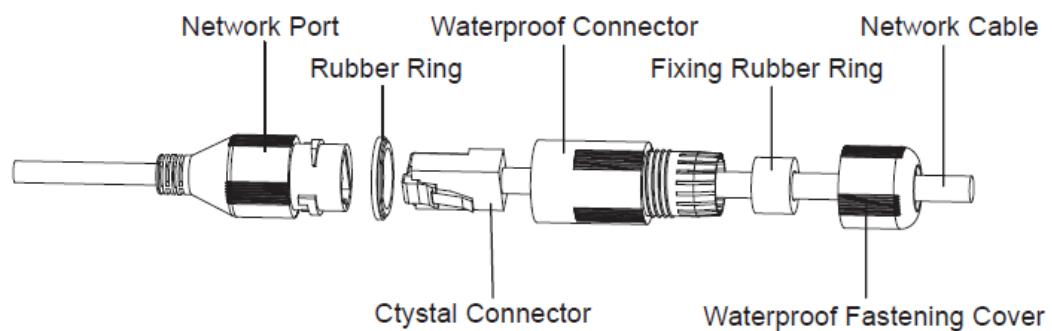

Figure 2-6
Step 5 Install waterproof connector for network port, which is shown in Figure 2-6.